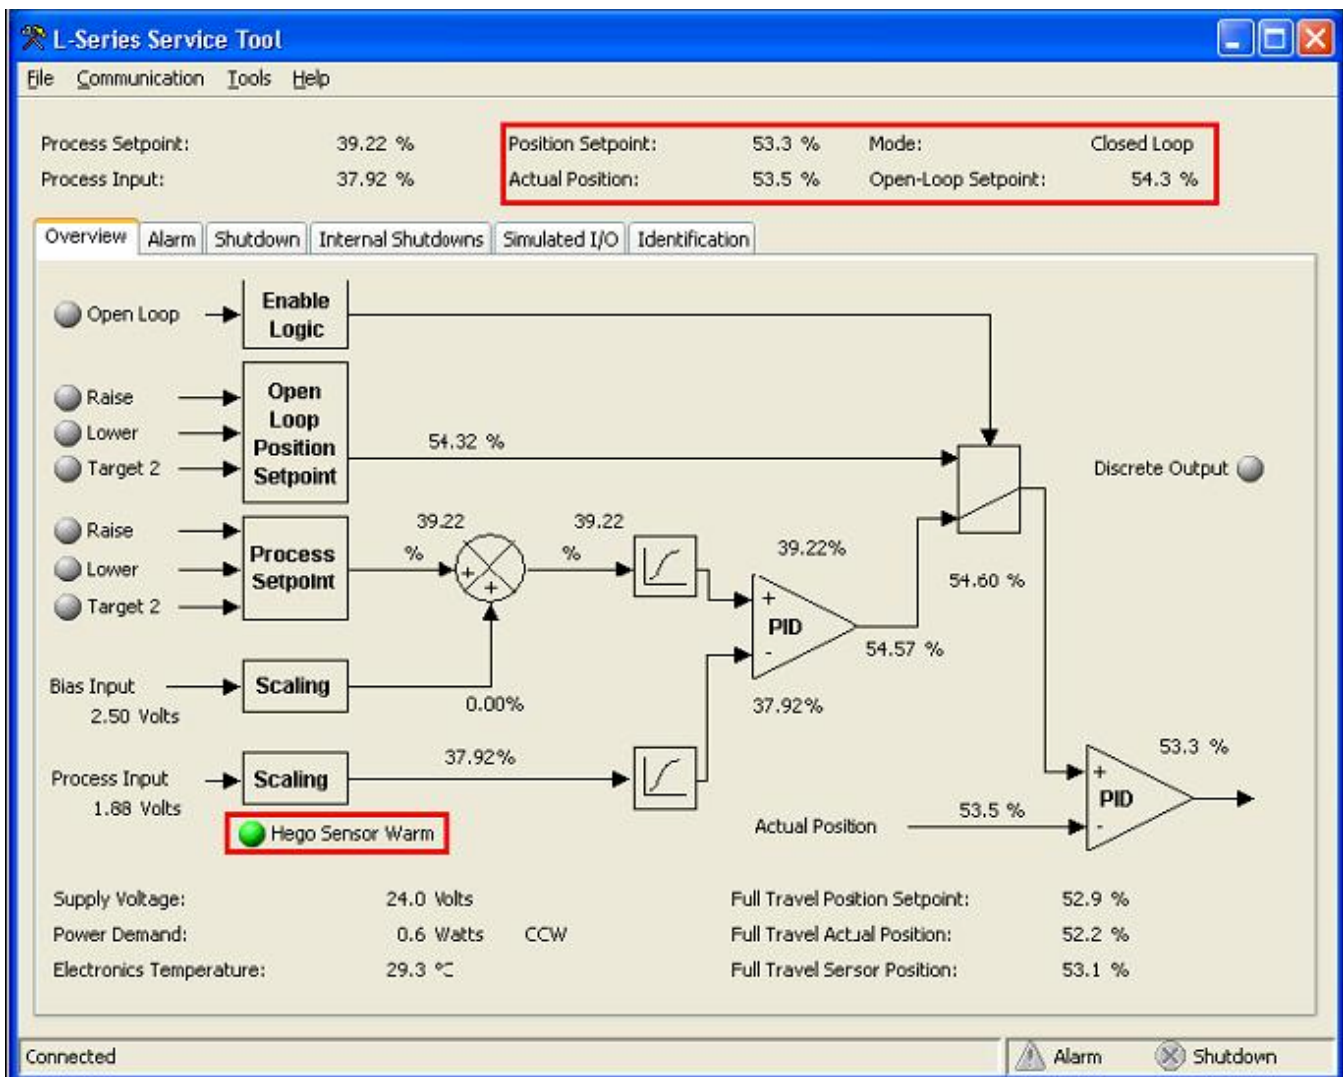

FIGURE 24. WOODWARD SOFTWARE, OVERVIEW SCREEN (EXAMPLE; FIELDS REFERENCED IN PROCEDURES ARE BOXED)
- d. At the overview screen, make sure that the fuel trim valve is in open-loop mode. (See Figure 24 for reference.) Verify that the fuel trim valve is in open-loop mode and that the actual position of the valve is the same as or very close to the commanded position (66.3% for natural gas, 49.4% for liquid propane). If one or both of these is not right, verify the wiring to the HEGO sensor. See steps 5 and 6 for FC **1318**. If that is not the problem, remove the fuel trim valve, and check for obstructions. If there are none, replace the fuel trim valve.